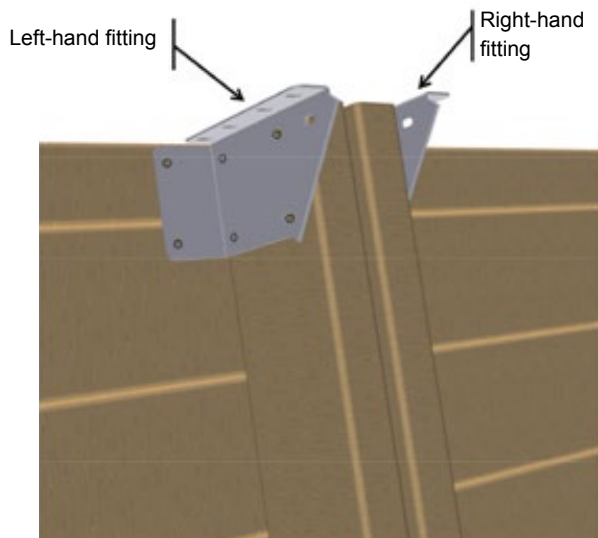

Figure 18 – Mounting the fittings on top of the supporting brace
- On top of each of the four metallic supporting braces and the two wooden supporting braces, place a 'right-hand' fitting and a 'left-hand' fitting from the 'Fastening elements' kit as shown in *Figure 18*. Use 6 hinge screws 6 × 20 in A2 SS (bag G) per fitting, that is a total of 72 screws.